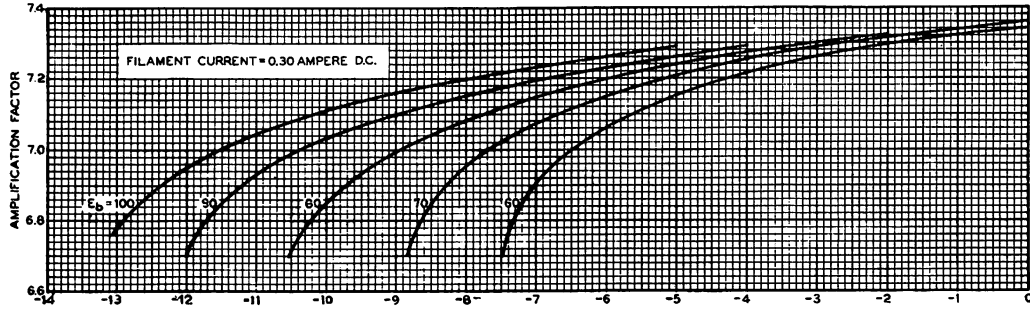
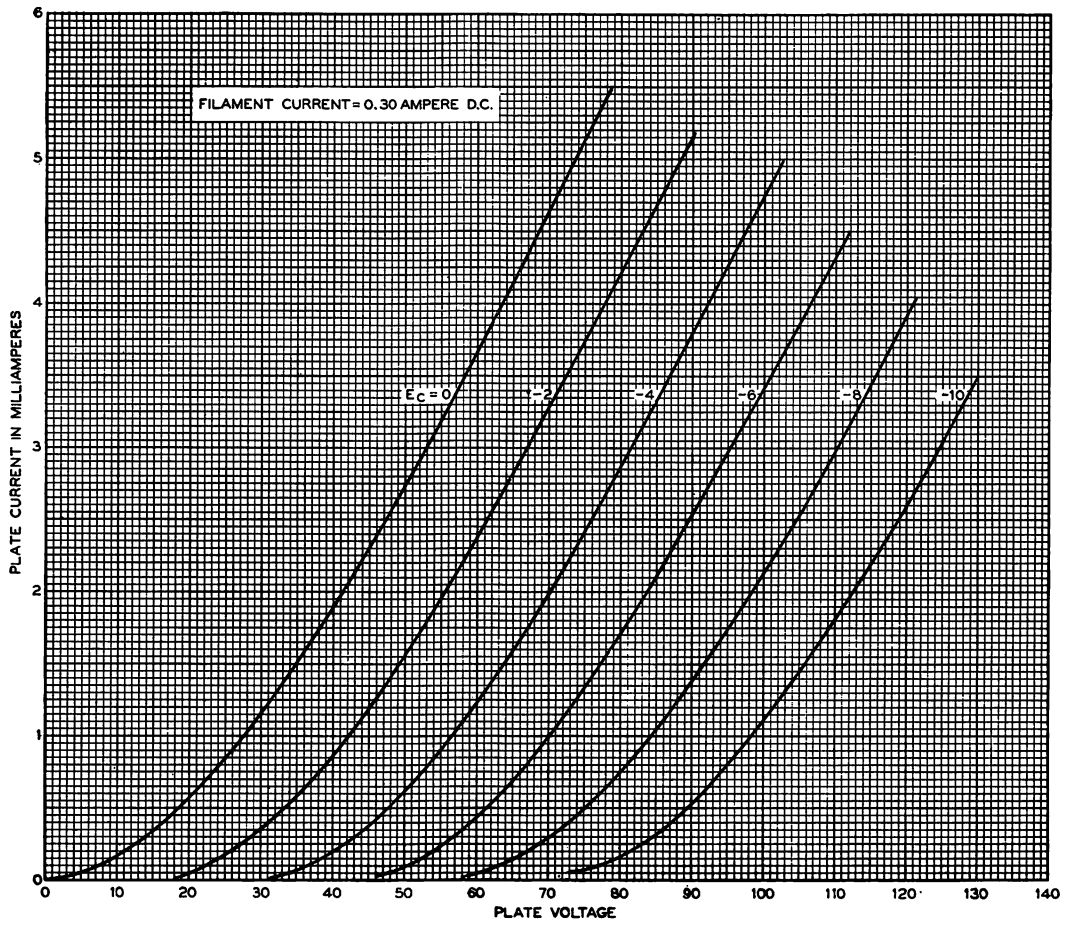

FIG. 4
FIG. 7
**Characteristics**—Grid-plate characteristics of a typical 264B tube are shown in Figure 3 for several values of plate voltage. Corresponding amplification factor, plate resistance, and transconductance characteristics are given in Figures 4, 5, and 6, respectively. Plate characteristics for several values of grid bias are shown in Figure 7. In each case, the grid and plate voltages are measured from the negative end of the filament.